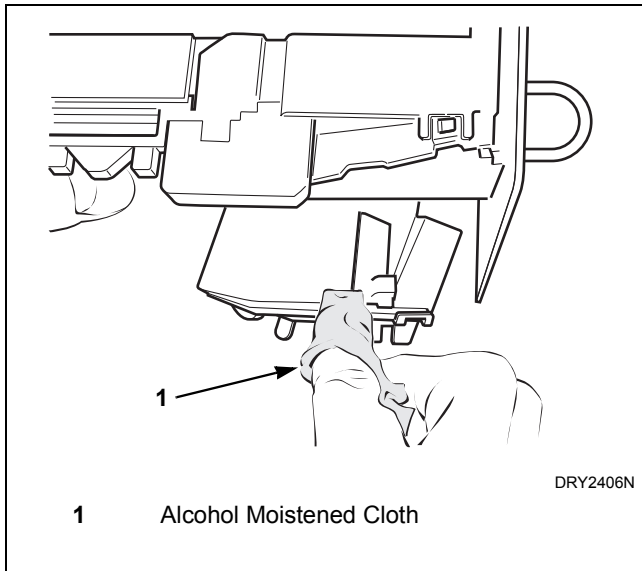

Figure 8
5. Clean residue from coin rail with an alcohol moistened cloth. Refer to *Figure 8*.